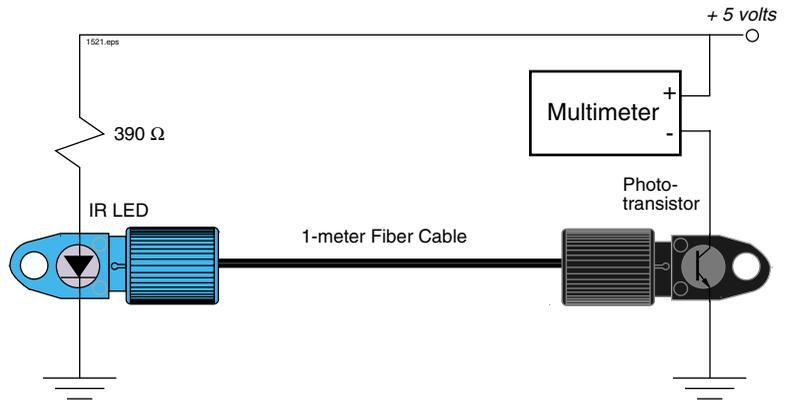

Figure 6.2 Test diagram for measuring the effects of various fiber terminations.
2. Assemble the circuit diagram shown in **Figure 6.2** on the solderless breadboard.